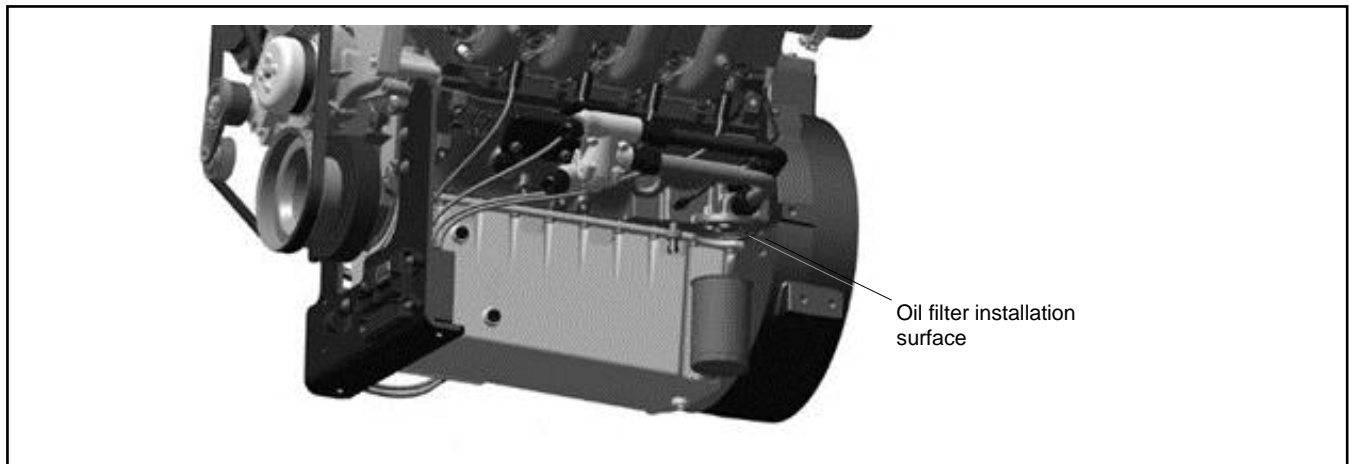

Figure 20 Oil Filter Installation Location
5. Wipe the oil filter installation surface clean with a dry cloth. Inspect the installation surface for damage. See Figure 20.